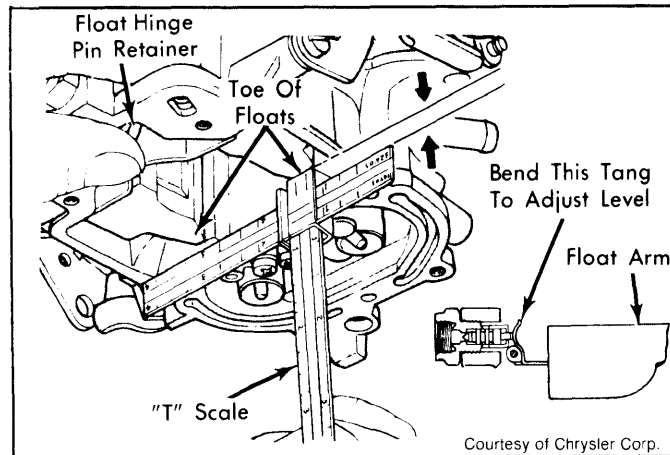

Fig. 1: Adjusting Float Level
1) With air horn removed, invert main body. Catch accelerator pump check ball and weight if not previously removed. Hold float hinge pin retainer in place with finger. See Fig. 1.